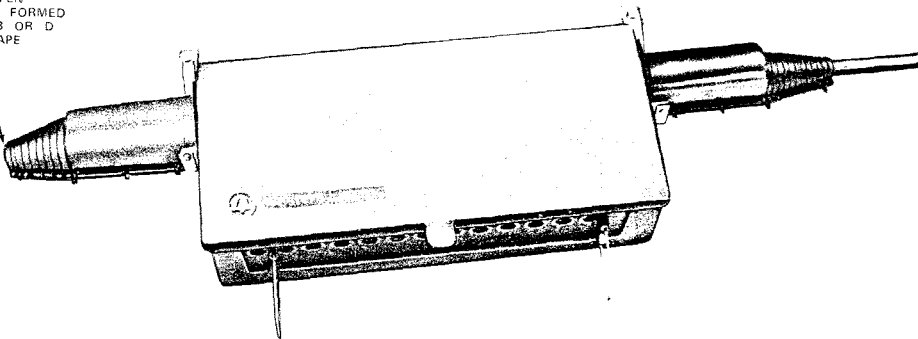

Fig. 5—Housing Installed
- (5) Fit cable boot around cable. If the unused boot end is open, plug with formed roll of B or D sealing tape (Fig. 5). Place, tighten, and trim cable ties on each boot.
- (6) Install terminal panel assembly in housing assembly. Align housing with slots in cable boots. When fully seated, there is an audible snap (Fig. 5). For security (if desired), tighten security screw using a KS-19192, L1 wrench.
- (7) Close door and secure with snap catch.